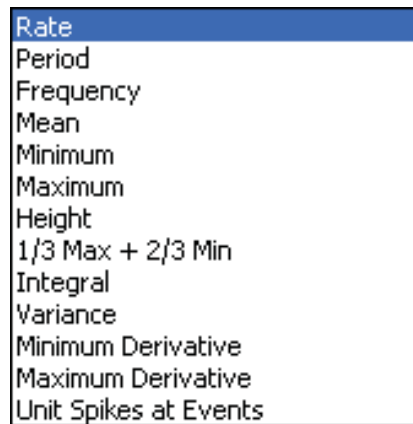

Figure 3: Measurement drop-down list
7. The output is selected from the Measurement drop-down list (Figure 3).